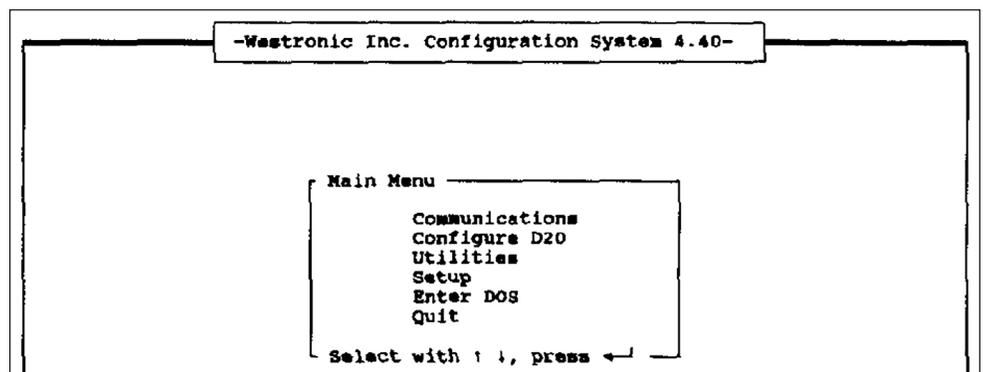

Figure 21. The *Main Menu* screen.
STEP 16. Using the arrow keys, select the **Return to main Menu** option and press the <ENTER> key. *Main Menu* screen will open. See Figure 21.